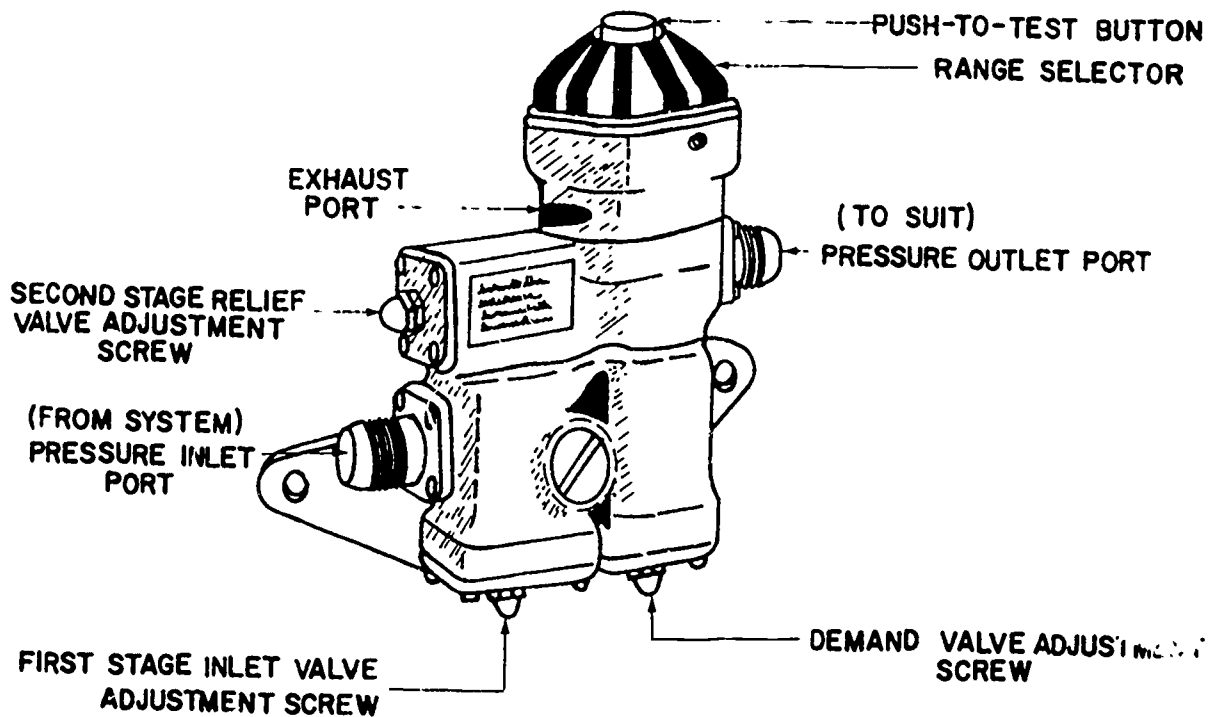

Figure 1. Anti-G Suit Valve (Part Number 10050).
2. Locate the first stage relief valve on the anti-G suit valve. Refer to figure 1 of this text and paragraph 1a above. Use the adjustable jaw wrench to remove the valve.
5. Slowly increase air pressure until gage P3 indicates 30 to 35 psi. If manometer does not remain at the specified air pressure, notify your instructor. Do not make any adjustments at this time. Read the adjustment procedures in TO 9P5-3-12-3. Figure 2-1, index 19 of the TO locates the adjustment screw on the anti-G suit valve. Figure 1 of this workbook also locates the adjustment screw. Refer to figure 2-1 of the TO. Nut (index 14) must be removed. Loosen lock nut (index 15) before turning the adjustment screw. Turn the screw clockwise or counterclockwise until the desired pressure is indicated on manometer M4. After the adjustment is made, the adjustment screw must be held in place before tightening the lock nut. After the lock nut has been tightened, install and secure nut (index 14).
7. If the pressure setting is not within the maximum and minimum range, notify your instructor. Do not make any adjustments at this time. Read the adjustment procedures in TO 9P5-3-12-3. Figure 2-2, index 6 of the TO locates the adjustment screw on the anti-G suit valve. Figure 1 of this workbook also locates the adjustment screw. Refer to figure 2-2 of the TO. Nut (index 1) must be removed. Loosen lock nut (index 2) before turning the adjustment screw. Turn the screw clockwise or counterclockwise until the desired pressure is indicated on manometer M4. After the adjustment is made, the adjustment screw must be held in place before tightening the lock nut. After the lock nut has been tightened, install and secure nut (index 1).
12. Arrange the parts on the workbench in an orderly manner. You should have: a hose, a ground laboratory test kit, two (2) caps, and hand tools. The trainer should have: an anti-G suit valve, a hose connected between 7A and D6, and a hose connected to 7B.